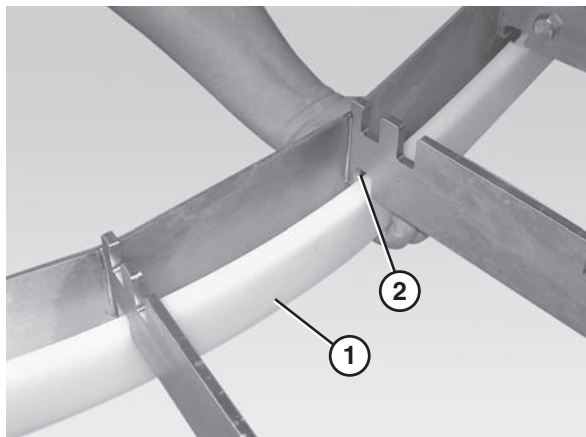

Figure 29
1. Insert the inside return bottom wear strip (**Figure 29, item 1**) into the slots (**Figure 29, item 2**) on the lower inside section of the frame (figure shown without the belt or wear strips).
2. Attach the chain return shoes (**Figure 29, item 1**) to the curve return shafts (**Figure 29, item 2**).